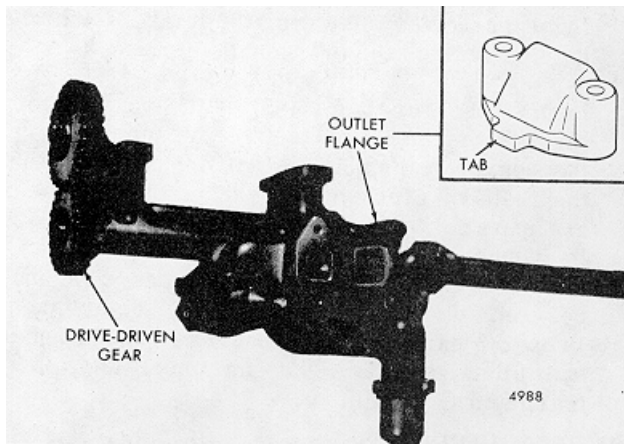

Fig. 11. Position of Scavenging Pump Outlet Flange
**NOTE:** When installing an outlet flange of the type illustrated in Fig. 11, be sure the opening in the flange is toward the front of the pump (toward the drive-driven gear).